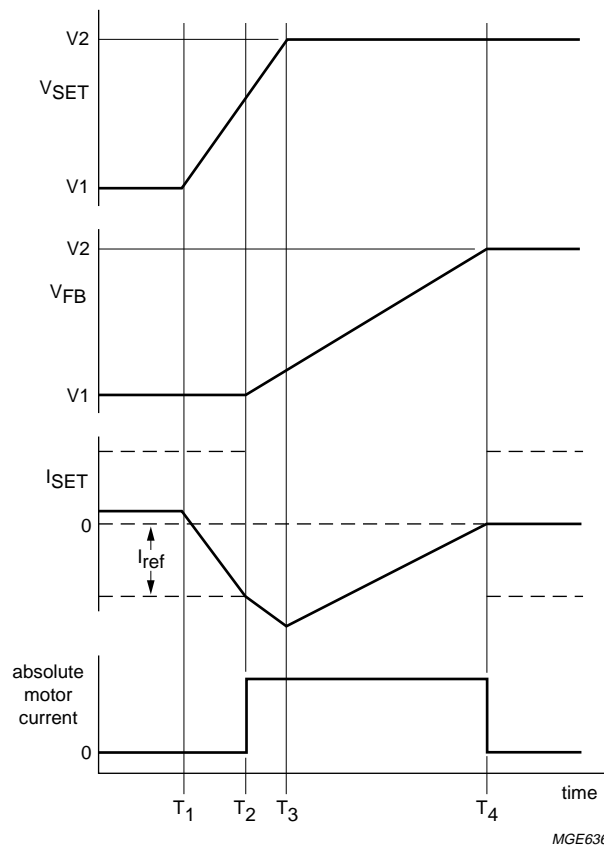
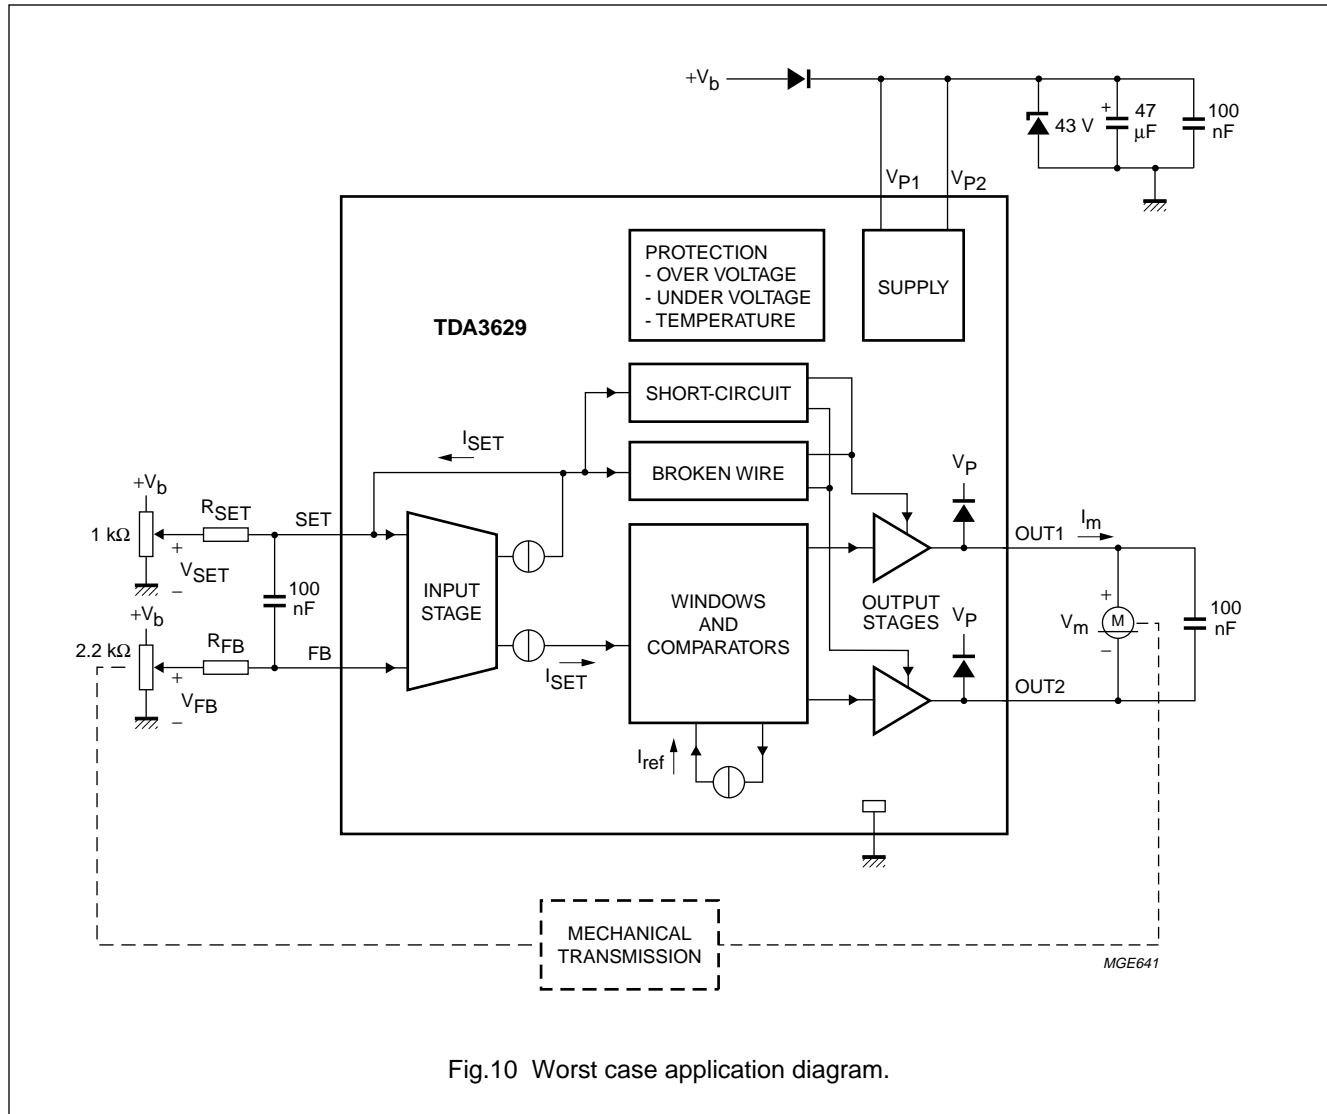

Fig.5 Timing diagram.
Fig.10 Worst case application diagram.
The timing can be divided into several parts starting from a steady state (see Fig.5, the starting point, and Fig.10 for the application diagram): in this state (until  $T_1$ ) a large reference current is active, indicated by the dotted lines. When the setting potentiometer is rotated (started at  $T_1$  and indicated by  $V_{SET}$ ) and the input current  $I_{SET}$  becomes higher than the reference current  $I_{ref}$  (at time  $T_2$ ), the motor will start and the input current will decrease. At the same time the reference current is switched to a low level. During rotation of the motor the input current will decrease until it becomes lower than this low reference current;
In accordance with the Absolute Maximum Rating System (IEC 134). All voltages are defined with respect to ground. Positive currents flow into the device. Values measured in Fig.10.
- Wave forms illustrated in Figs 7 and 8 applied to the application diagram, Fig.10.
$V_P = 12\text{ V}$ ;  $R_L = 14\ \Omega$ . All voltages are defined with respect to ground. Positive currents flow into the device. Values measured in Fig.10 with  $R_{SET} = R_{FB} = 20\text{ k}\Omega$ ; unless otherwise specified.
Worst case transients that may occur on the battery line  $V_b$  of the application (see Fig.10), are the pulses whose wave forms and the corresponding values are as illustrated in Figs 7 and 8. The signal source which generates these pulses (numbered pulses 1 and 2) has a series resistance ( $R_i$ ) of  $10 \Omega$ . These pulses represent for instance the influence of switching of inductors on the battery line. The signal source which generates pulses 3 and 4 has a series resistance of  $50 \Omega$ . These pulses represent for instance the influence of ignition on the battery line. Their repetition rate is 100 ms.
Two possible application diagrams are shown. The first (see Fig.9) shows the best case: the lowest component count. The second (see Fig.10) shows additional components which may be necessary. Two capacitors are added to meet EMC requirements (one on the  $V_P$  pins, the second one between the set and feedback input pins). A third capacitor has been added across the motor to suppress current spikes. The given values of these capacitors have to be optimized by experiments carried out on the total application. The resistors do not have to have the same value. The voltage hysteresis is set by means of  $R_{SET}$ .